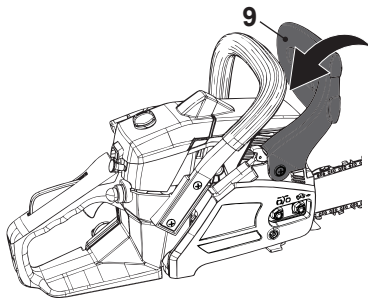

Fig. 22, disengage chain brake
Disengage chain brake: When the chain brake lever (9) is in the disengaged position, the product can be operated with running saw chain (Fig. 22).
Do not accelerate the engine for more than 10 seconds when the chain brake is in engaged position (Fig.22), as the chain brake system inside may damage the machine.